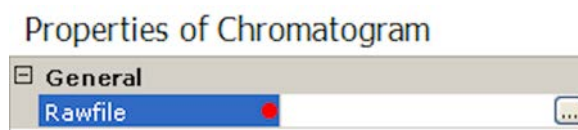

Figure 3-13. Selecting a rawfile
1. In the Properties of Chromatogram pane, click into the empty field of the Rawfile parameter to display the  button. See Figure 3-13.